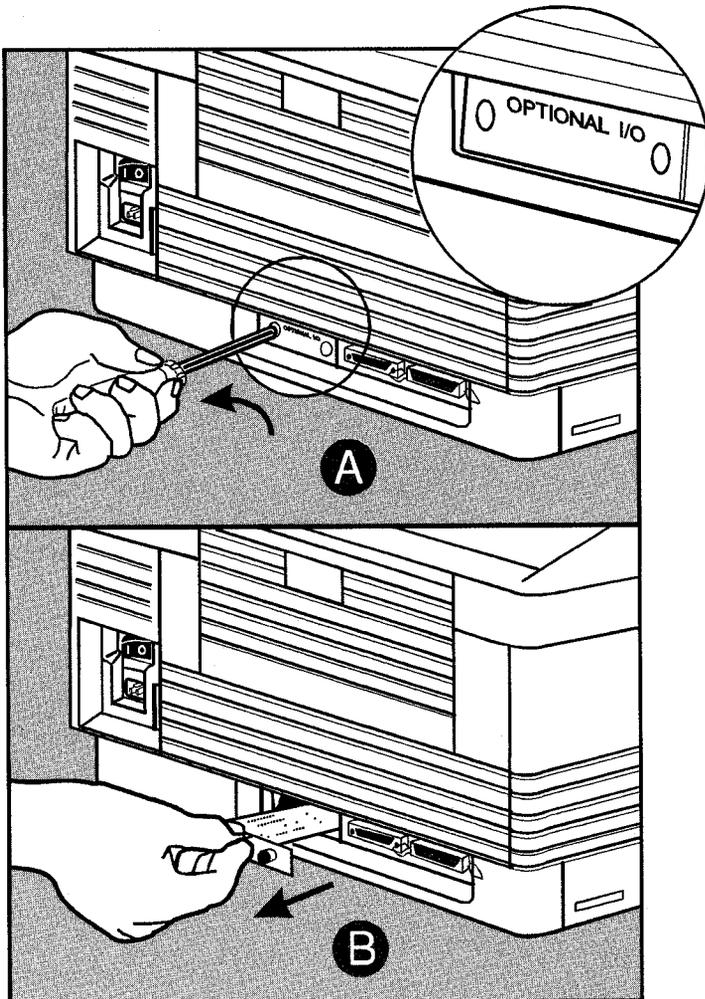

Figure 2-4. Removing Faceplate or Existing Card
4. With a small Phillips-head (cross-point) screwdriver, remove the Optional I/O faceplate **A** or the existing adapter card **B** (if any) from the rear of the HP LaserJet printer and store it in the anti-static bag in which your adapter card was shipped. See Figure 2-4.